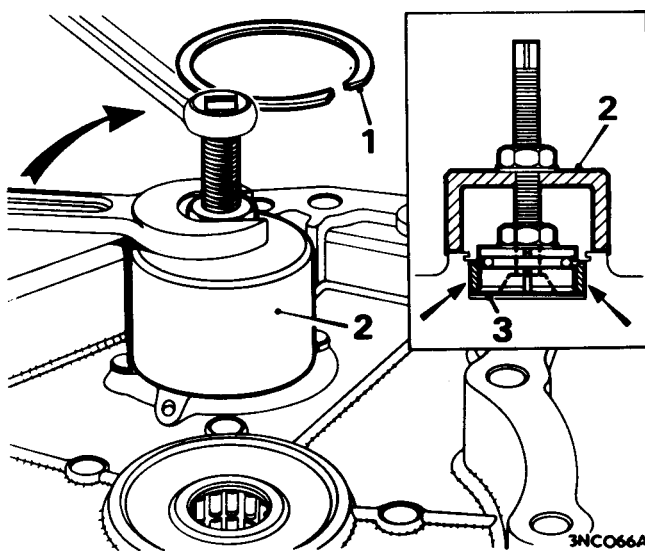

Fig. F.23
45. Use tool 18G 617A to pull out the outer race (arrowed), Fig. F.23.